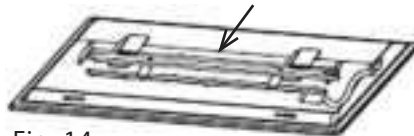

Fig. 14
3. Pull the connection terminal (Fig. 14). Use a screwdriver to remove the LED light board and replace it.